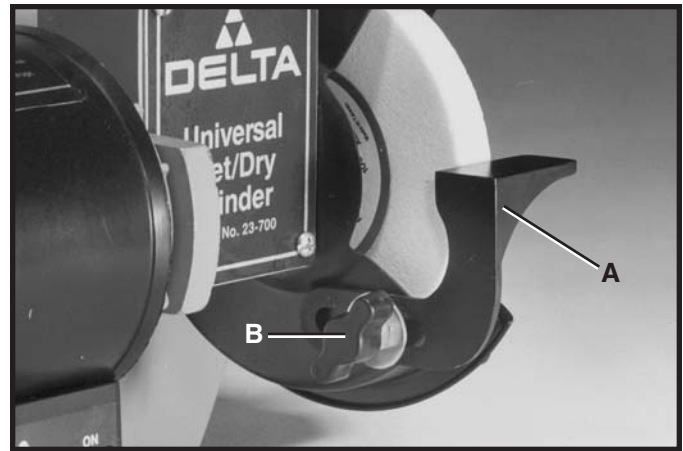

Fig. 5
1. Assemble the tool rest (A) Fig. 5, to the wheel guard using the lock knob screw (B), nut and washer.